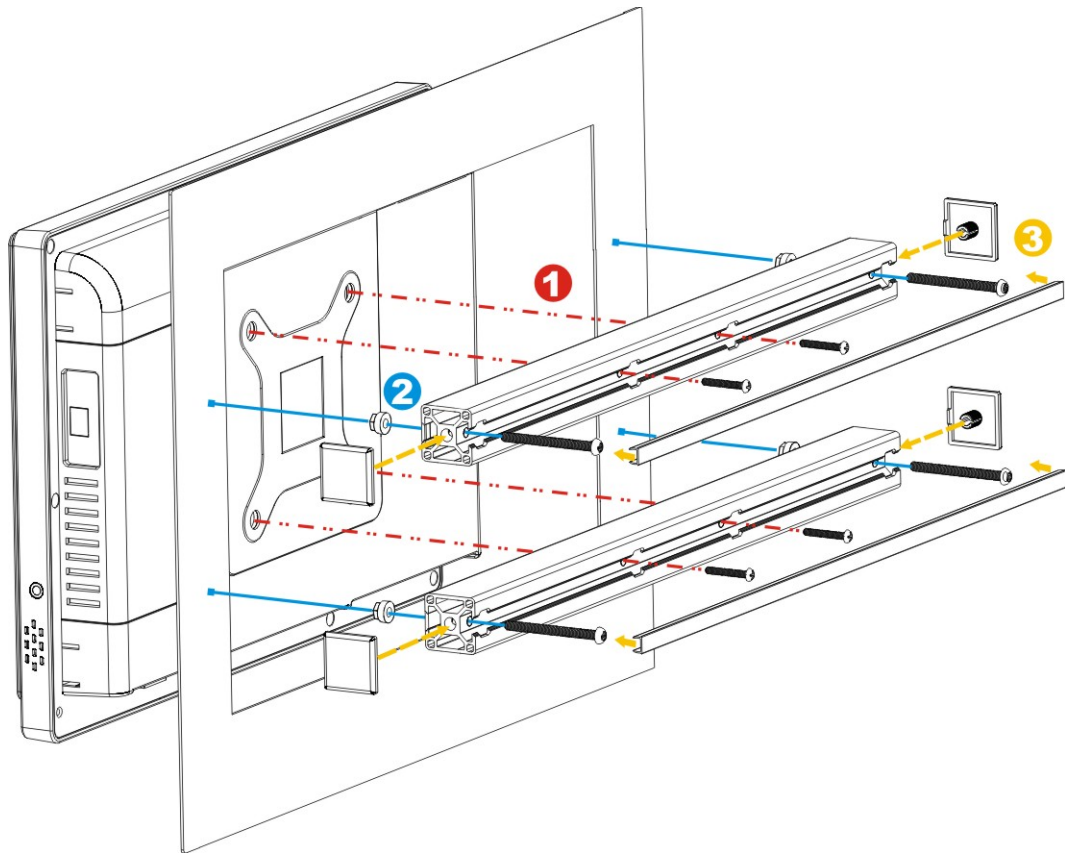

Figure 3-18: Tighten the Panel Mounting Clamp Screws
- Step 5:** Secure the two panel mounting brackets to the rear of the panel PC by inserting the four retention screws into the VESA mounting holes (**Figure 3-18 ①**).
- Step 6:** Insert the panel mounting clamps into the holes of the panel mounting brackets (**Figure 3-18 ②**). There are a total of 4 panel mounting clamps for AFL2-W15B-H61.
- Step 8:** Install the covers into the panel mounting bracket. Each mounting bracket includes two side covers and one top cover (**Figure 3-18 ③**).